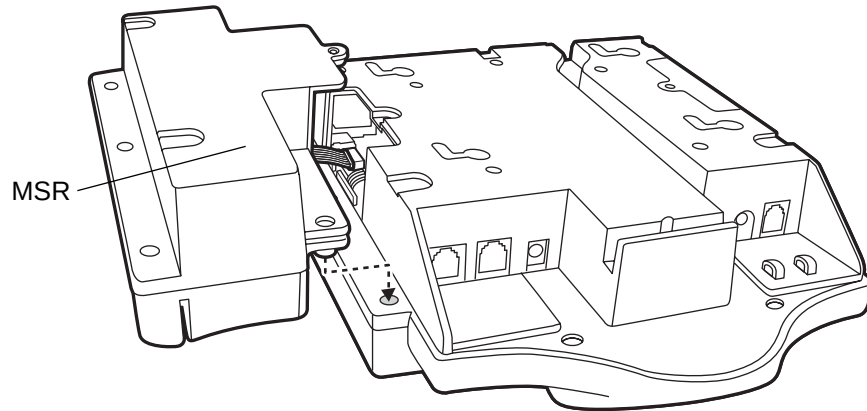

Figure 2-14 Positioning the MSR on the MK2200
4. Align the mounting holes on the MSR with the MSR mounting holes on the MK2200 as shown in Figure 2-14.